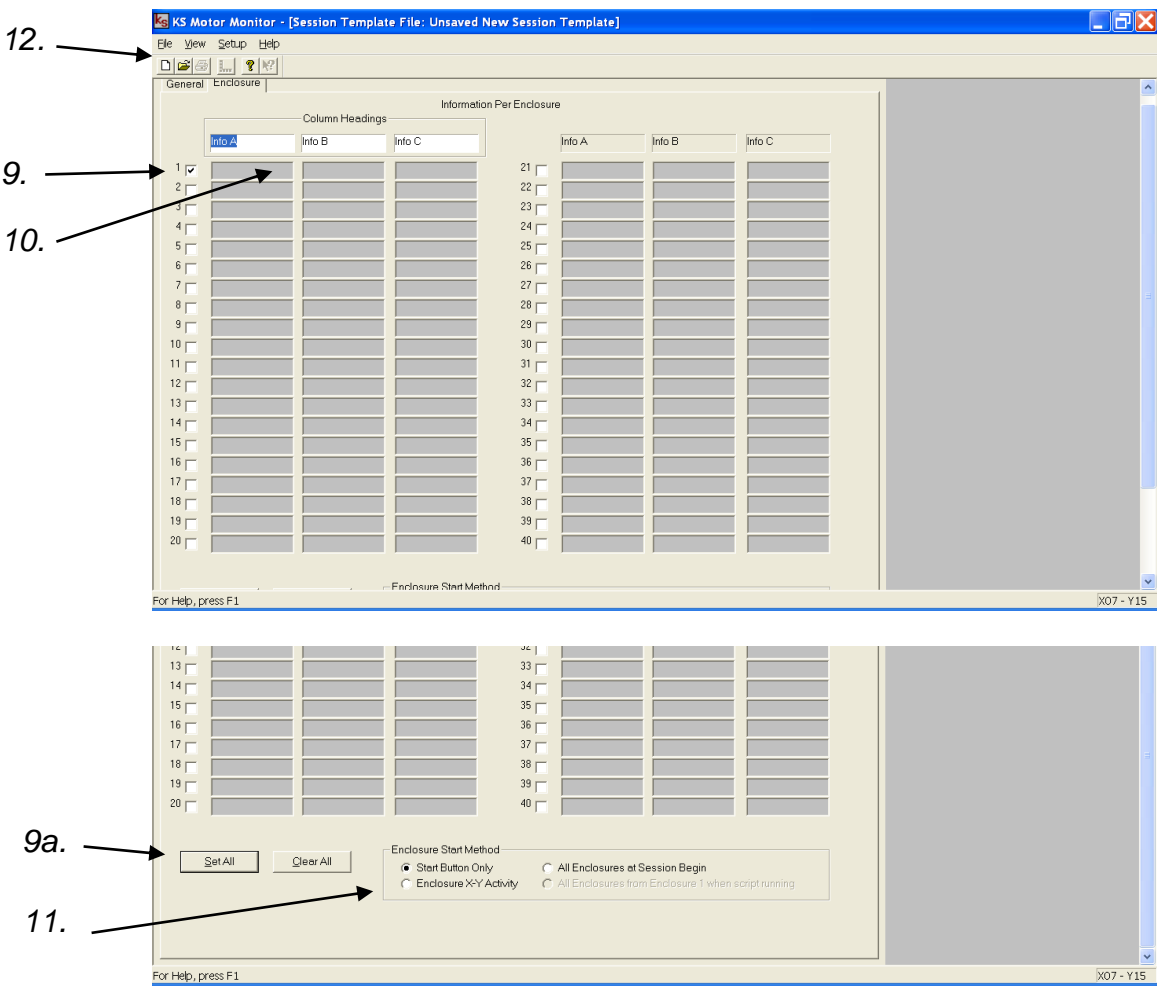
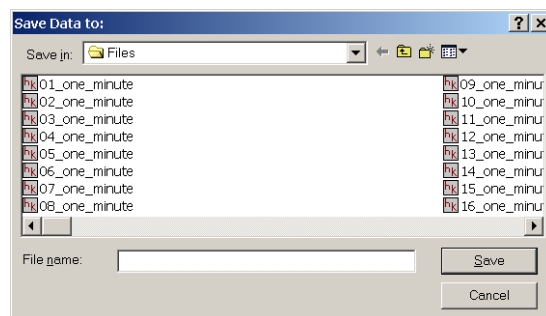

Figure 2-3 . Session Screen - Enclosure Tab
Figure 2-5. Naming the Raw Data File
4. For **Pre Pause**: Enter the time you desire to run before the pause period. (This feature is normally used when test subject requires dosing with two drugs for one session. Example - The test subject is dosed with a substance at the beginning of a 60 minute session. You have selected a 30 minute pre-pause time. The session pauses at 30 minute point, you remove subject for dosing with a counteracting substance, place the subject back in the enclosure, press the start switch and the session continues to run for an additional 30 minutes). Session will run continuously after start if pre-pause time is set to 0 minutes. The Pre Pause feature requires that the Enclosure Start Method be set to "Start Button Only". (Refer to figure 2-3).
8. Select the **Enclosure** tab. A screen similar to the one shown in Figure 2-3 will appear.
13. Click on the yellow chevrons located on the tool bar (Figure 2-3). A screen will appear as shown in Figure 2-5 asking you to enter a file name for the raw data file.